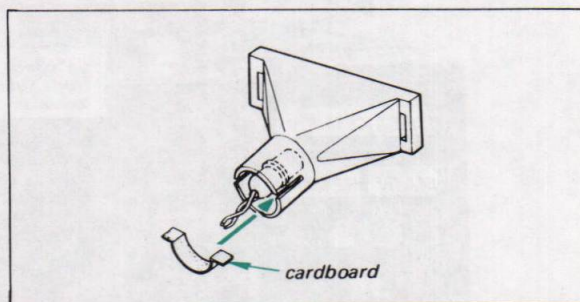

Fig. 2-13. FUNCTION indicating lamp installation
4. When installing a new lamp, fix it with a piece of cardboard and a drop of contact cement as illustrated in Fig. 2-13.